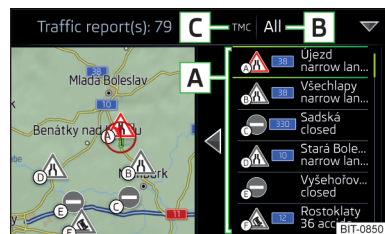

Fig. 189
In the list of traffic messages and the map, a max. of 6 messages are displayed, that are provided with a letter and a traffic obstruction symbol (e.g. , , ) A » Fig. 189.
At position C » Fig. 189, the following symbols can be displayed.
- **Route guidance is taking place** - After tapping function surface B » Fig. 189 in the displayed menu, you can select all traffic messages by tapping the function surface **All areas**, or you can select only the traffic messages present on the route by tapping the function surface **Route**.